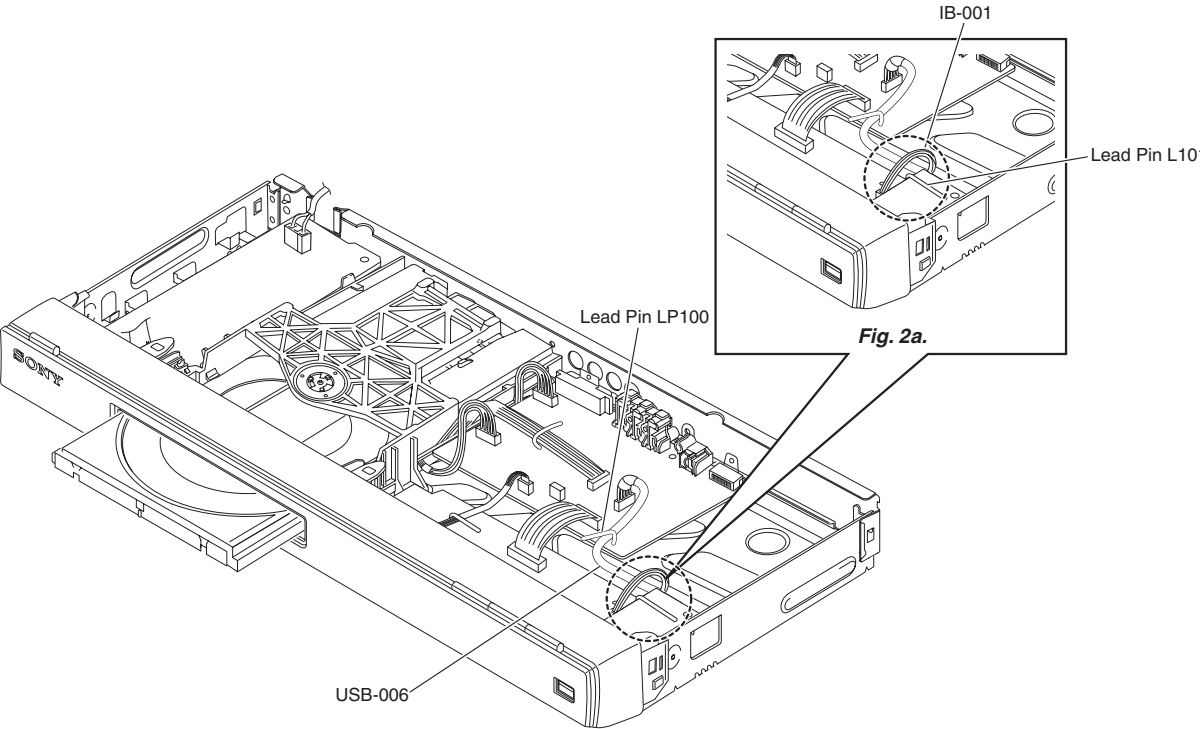

Fig. 2
- 1) Please ensure USB-006 dressing as shown in Fig. 2.